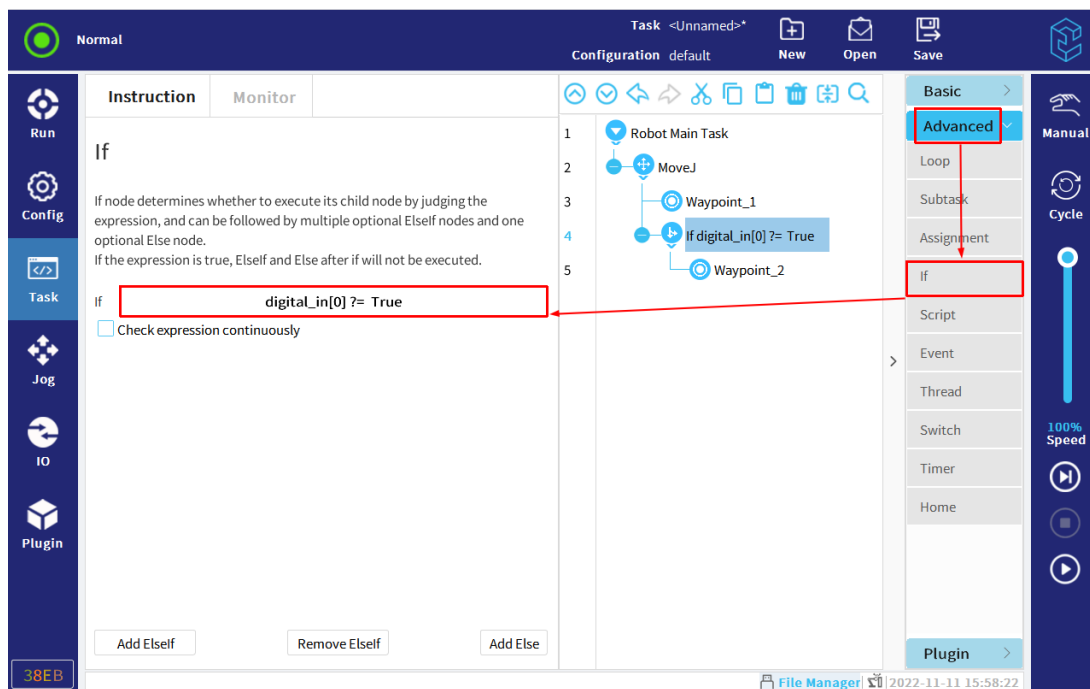

Figure 3-101 : If
2. Click "If" in the task tree to modify the expression, as shown in **Figure 3-101**.